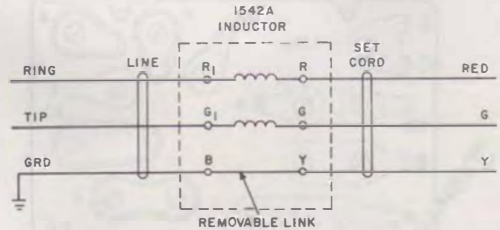

Fig. 3—1542A Inductor and Schematic
(c) 1542A Inductor (Fig. 3)
Fig. 3—94A—Plastic plate in all colors, 3-1/4 inches in diameter provided with connecting terminals and chrome plated number card holder group. ♦94A-3 (BK) is not provided with number card holder group. Replaces 82A. For 300-type indoor telephone sets.♦